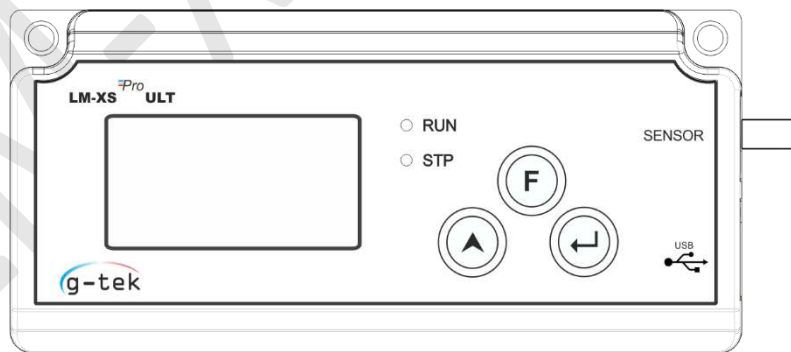

Figure 5 External Sensor jack Inserted
- Sensor will be inserted in the LM-XS^{Pro} ULT data logger using 4 contact 3.50 mm Stereo jack connector. Connect sensor cable as per figure 5.